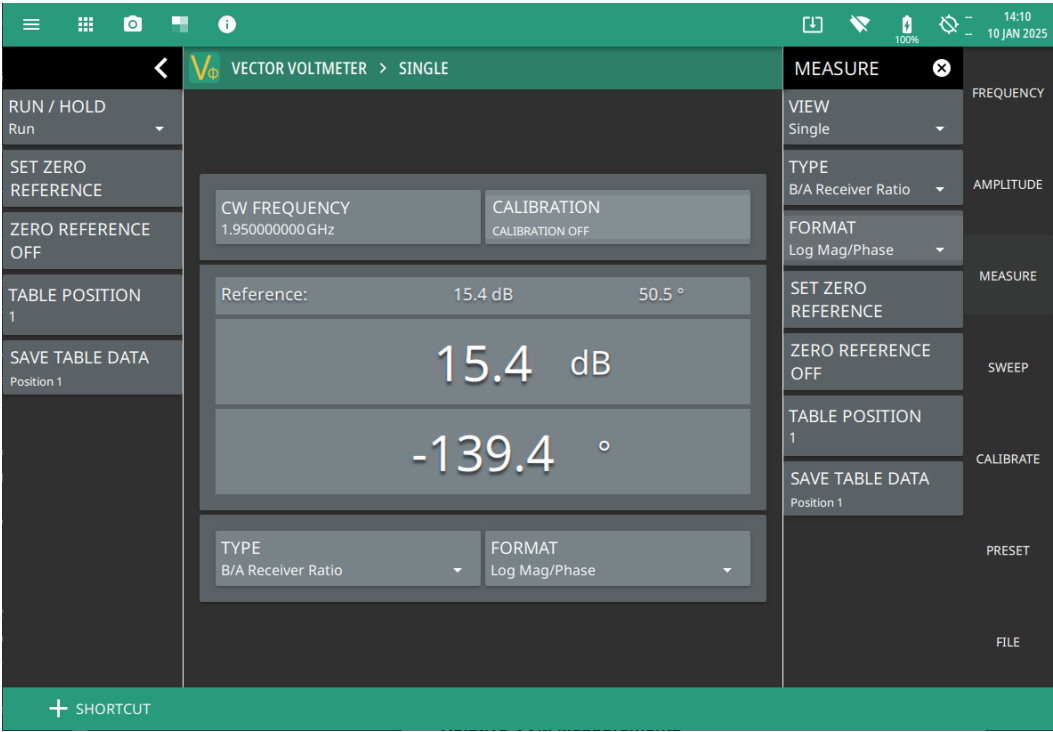

Figure 3-11. Relative Reflection Measurement
5. As shown in Figure 3-11, the current measurement is saved and displayed as the Reference Value (at the top of the VVM display). The displayed values are now relative to the saved values, which are the difference between the current measurement and the saved reference. In other words, saving a reference will normalize the results to the current measurement.